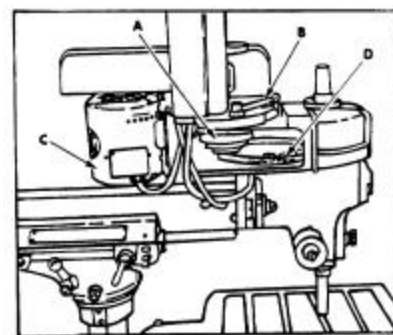

Figure 6
2. When changing the position of the belt on the spindle pulley and the lower jackshaft pulley (A) fig. 6, simply loosen lock handle (8) and pivot the motor (C) forward to release belt tension. Position the belt (D) on the desired steps of the spindle and lower jackshaft pulleys and move the motor back until proper belt tension is obtained. Then tighten lock handle (B) fig. 6.